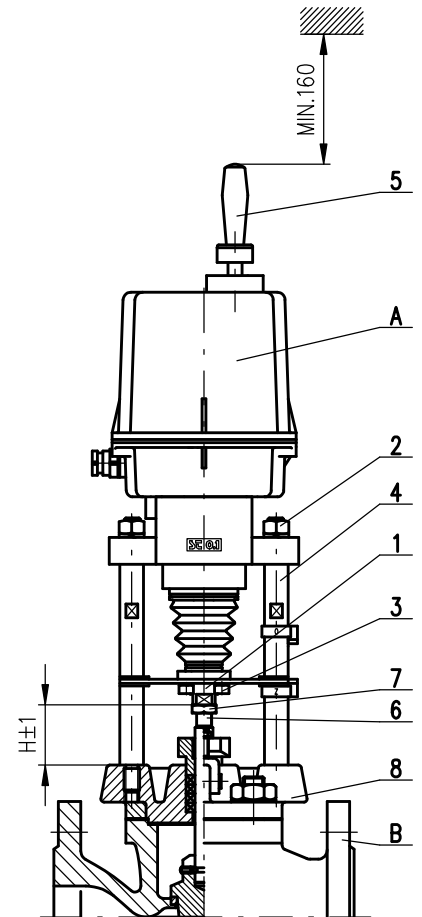

Fig.4
b) Mechanical connection for pillar version - Fig. 4